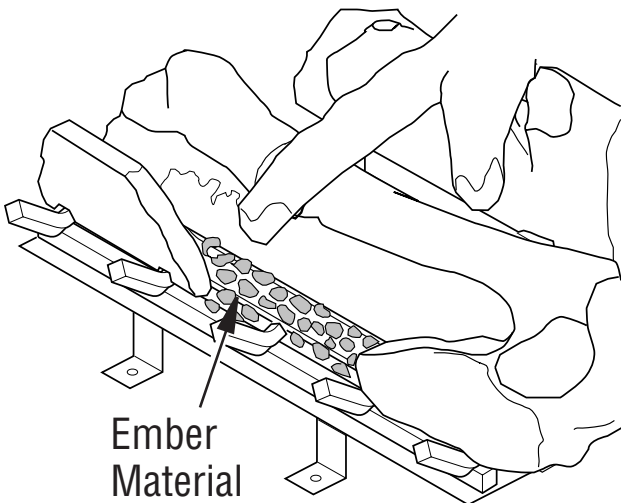

Figure 32 - Placing Ember Material on Burner
- Pull ember material apart into pieces no larger than a dime. Place these pieces loosely and sparingly directly onto the exposed section of front burner and along space between burner and grate prongs (see Figure 32). This will create the glowing ember appearance as the flame touches the ember material. Do not block air slots by using too much ember material in one area. It is not necessary to use all of the ember material provided.